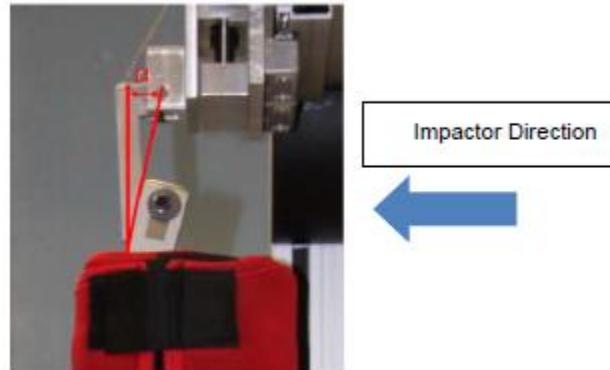

Figure 100 Launch guide with 15° tilt toward guided impactor
Step 2: Make sure the launch guide at the top of the femur is locked tilting 15° towards the impactor. Lock the guide in position using the two M6 screws both sides. This allows the leg to hang vertically on the spring loaded release mechanism. See Figure 100 below.